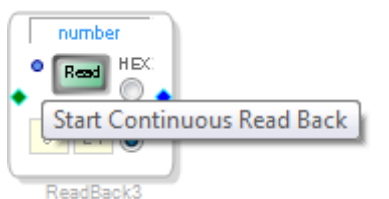

Figure 55. Activating Continuous Readback
- Click the **Read** button in the **DSP Readback** block (see Figure 55) to fetch the instantaneous value of the signal passing through the block.
- On each **DSP Readback** block, click the blue dot to the left of the **Read** button to read both blocks continuously (see Figure 55).